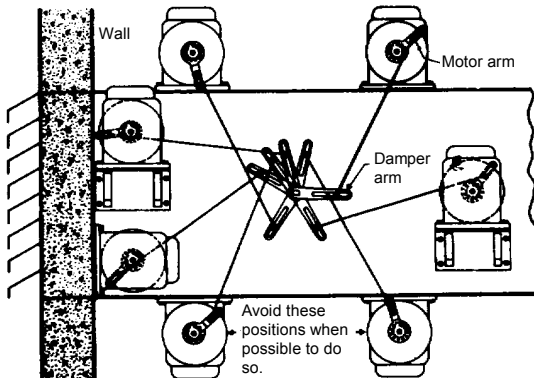

Fig. 5 Motor mounting positions
1. Fig. 5 shows motor mounting positions.